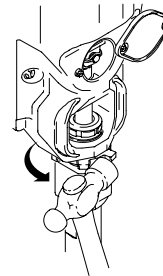

Fig. 12
6. Fig. 12. Screw jam nut (12) up onto pump until nut stops. Tighten jam nut by hand, then tap 1/8 to 1/4 turn with a 20 oz (maximum) hammer to approximately 75 +/- 5 ft-lb (102 N·m).